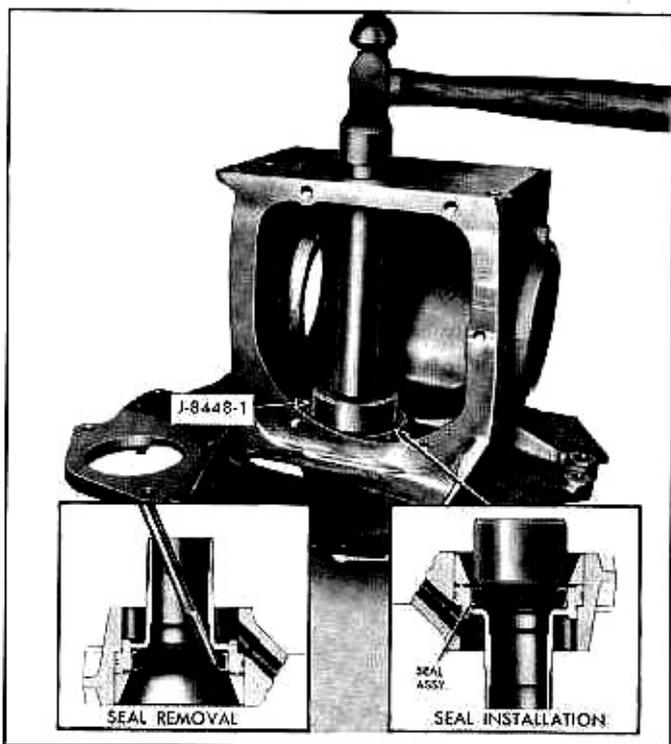

Fig. 8—Installing Pinion Rear Oil Seal in Stator Shaft
1. Remove old seal from stator shaft, using a screw driver or other suitable tool as shown in Figure 8.
2. Install new seal, using J-8448-1 as illustrated in Figure 8. Press seal into bore until it seats against stop.